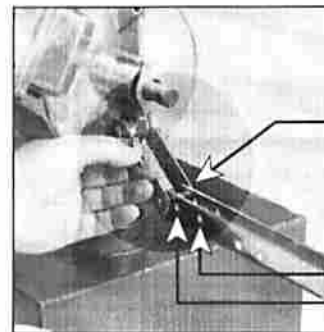

Figure 2
3. Attach the free ends of the links to the bottom, outer surfaces of the handle. Insert a long clevis pin through the holes on both links and the lowest hole on the handle. Secure with a small cotter pin. (Figure 2)